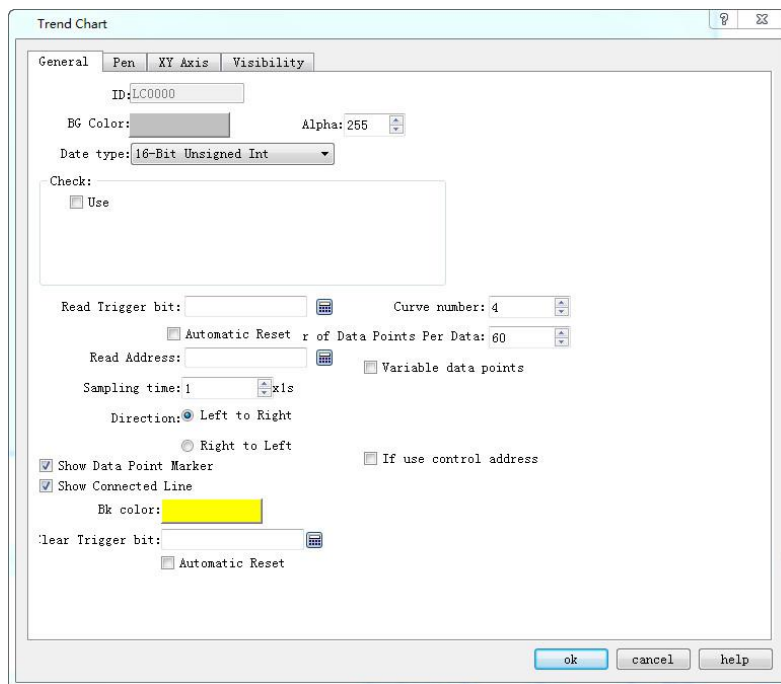

Figure 4-50 Trend Chart Common Dialog Box
1. Select the Trend Chart icon  in the toolbar, and then the properties dialog box appears, as shown in Figure 4-50